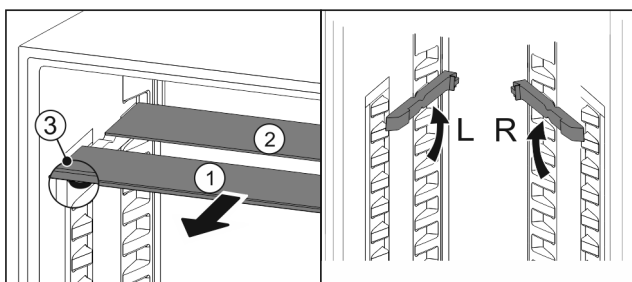

Fig. 57
- Pull the glass panels out Fig. 57 (1) from the front, one at a time.
- ▷ The glass panel Fig. 57 (1) with the trim strip is at the front.
- ▷ The stops Fig. 57 (3) point downward.